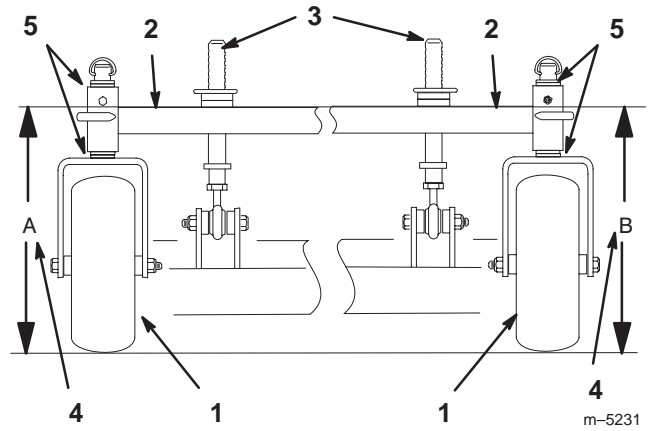

Figure 49
- Measure carrier frame height at location “A” (Fig. 49).
- Measure carrier frame height at location “B” (Fig. 49).